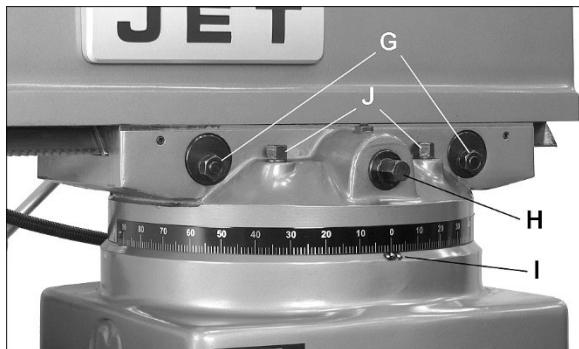

Figure 10-7: Ram positioning
*Refer to Figure 10-7.*
1. Loosen hex nuts (G, Figure 10-7) located on the eccentric locking cylinders.
2. Turn ram pinion (H) with 19mm wrench to slide ram forward or back.
3. When desired position is reached, tighten hex nuts (G) securely.
Refer to Figure 10-7.